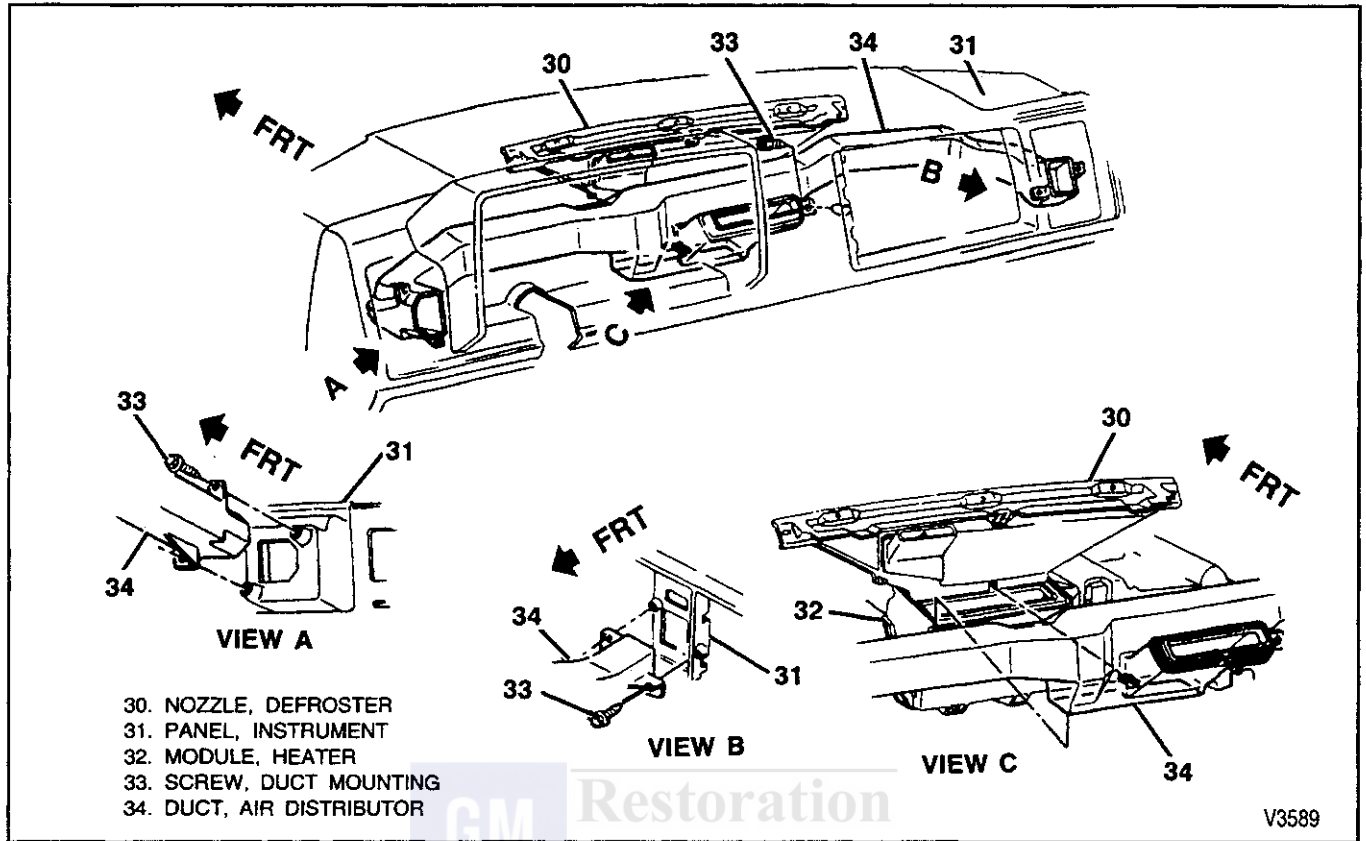

Figure 14—Air Distributor Duct
2. Screws (29).
- Screws (29) to 1.4 N.m (12 lbs. in.).
3. Screws (28).
4. Screws (27).
**Remove or Disconnect (Figure 14)**
1. Defroster nozzle (30). Refer to "Defroster Nozzle."
2. Five duct mounting screws (33).
### Install or Connect (Figure 14)